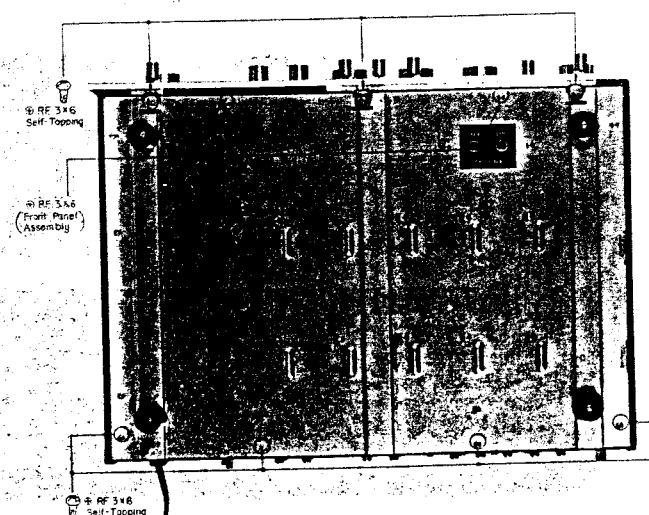

Fig. 2-3. Removal of Front-Panel Ass'y
- Turn the set over and remove the two self-tapping screws (+RF3 $\phi$   $\times$  6) from the front-bottom edge of the chassis. See Fig. 2-3.
- Turn the set over and remove the three Phillips-Head screws (+RF3 $\phi$   $\times$  6) at the front-bottom edge of the chassis. See Fig. 2-3. This frees the Front Panel.